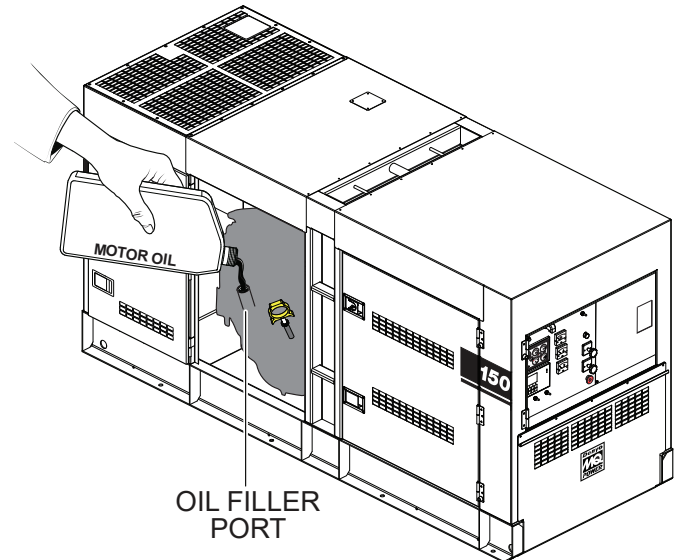

Figure 35. Engine Oil Filler Port
5. If the engine oil level is low (Figure 34C), remove the cap from the oil filler port (Figure 35) and fill to a safe operating level (max) as indicated by the dipstick (Figure 34A). Fill with recommended type oil as listed in Table 12. Maximum oil capacity is 8.18 gallons (31 liters).